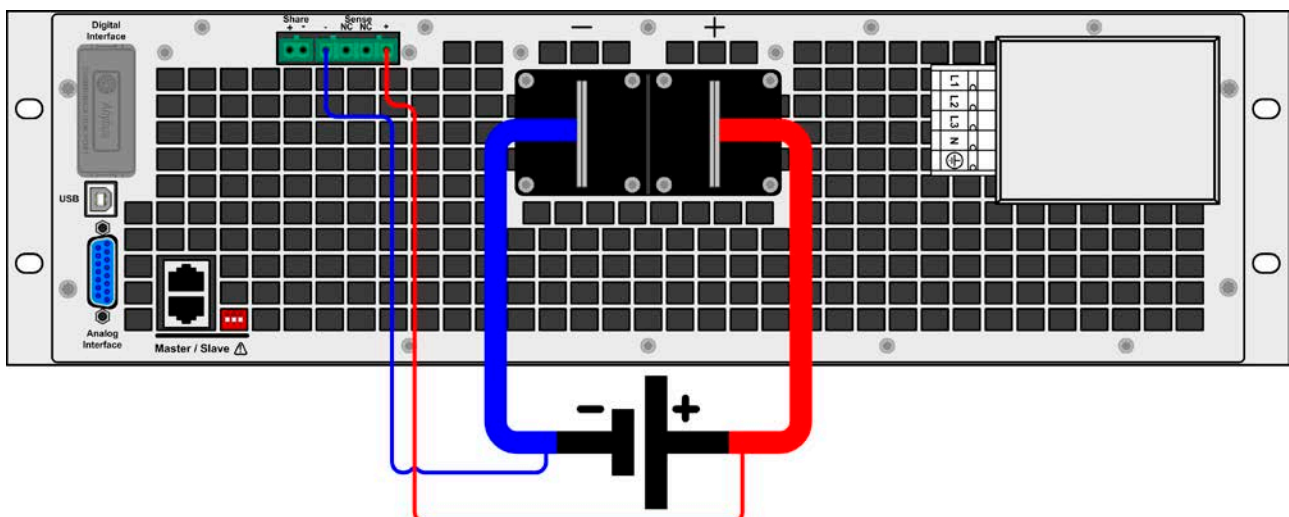

Figure 10 - - Example for remote sensing wiring
- *Remote sensing is only effective during constant voltage operation (CV) and for other regulation modes the sense input should be disconnected if possible, because connecting it generally increases the oscillation tendency.*
- *Sensing cables must be connected + to + and - to - at the source, otherwise the sense input of the electronic load can be damaged. For an example see Figure 10 below.*